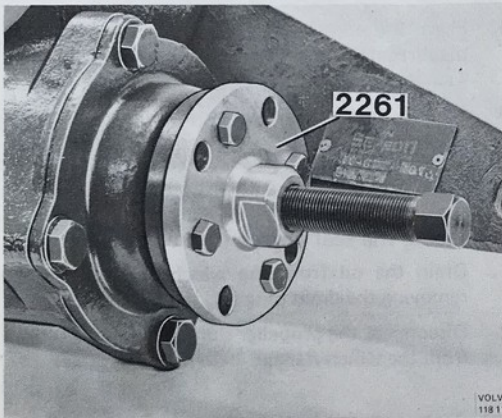

Fig. 92-26. Removing the flange
3. Remove the bolt securing the flange. Pull off the flange with 2261, see Fig. 92-26.